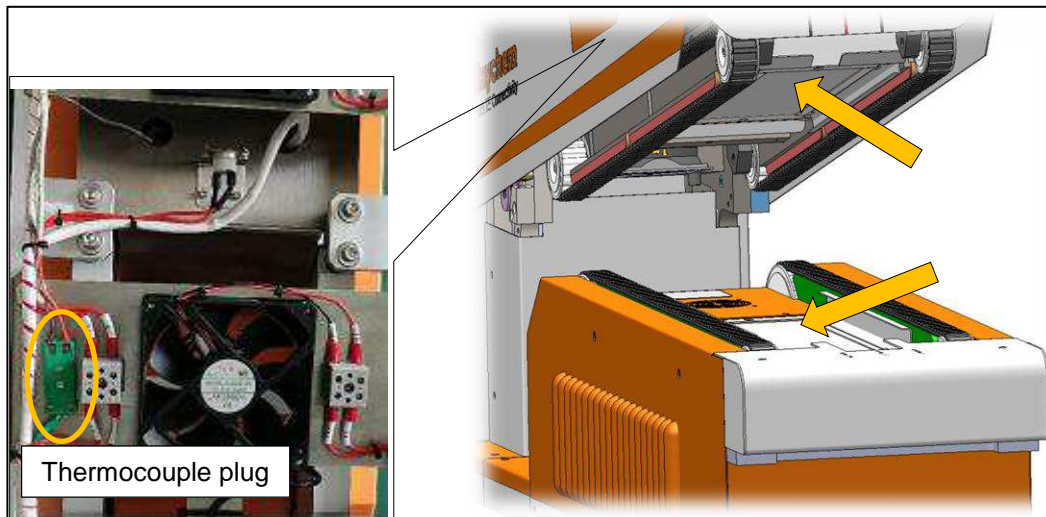

Figure 51: Heater
- Disconnect the thermocouple mini plug (Left picture in Figure 51) when replacing the upper heater.